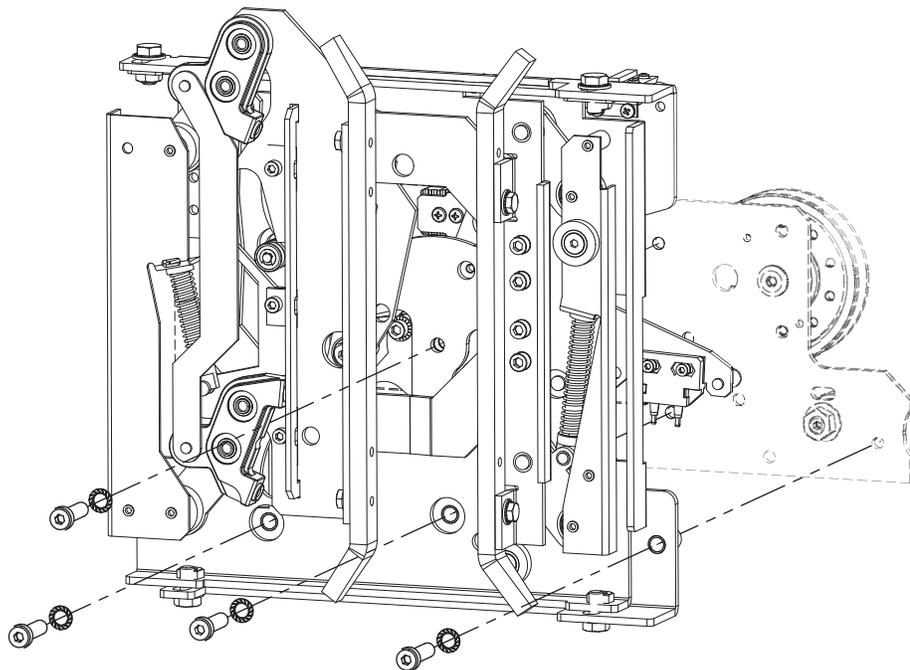

Figure 14 - Attach Clutch to Door Hanger
4. Use the four screws to mount the clutch on the car door hanger. See Figure 14.